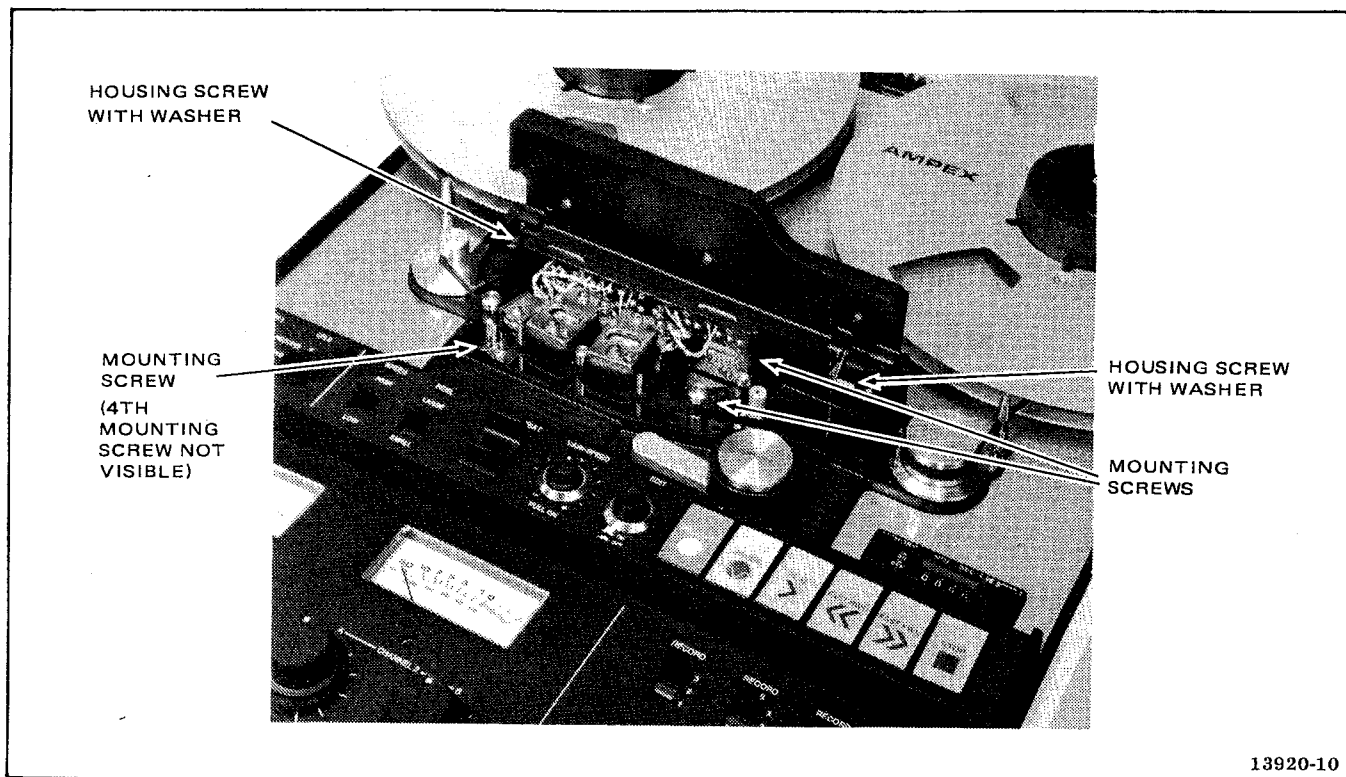

Figure 5-22. Head Assembly Removal
1. Remove head housing by removing one screw and washer from each side (see Figure 5-22); then gently remove housing.
3. Remove four mounting screws that hold head assembly on the front of the deck (Figure 5-22). Take care that two upper screws do not drop into machine.